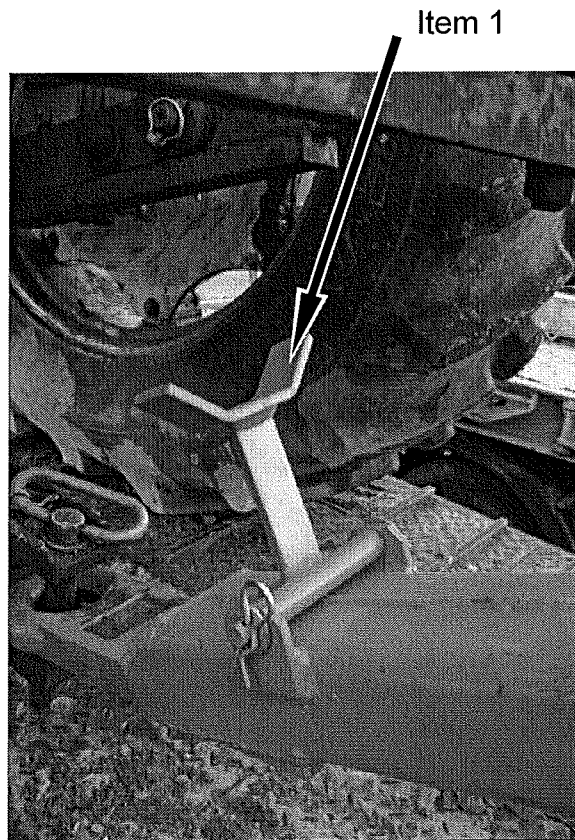

Fig 5.6
On the front of the drawbar is a rest for the PTO shaft when the machine is disconnected from the tractor (fig 5.6 item 1). The rest folds down out of the way when the machine is attached to the tractor and in work.